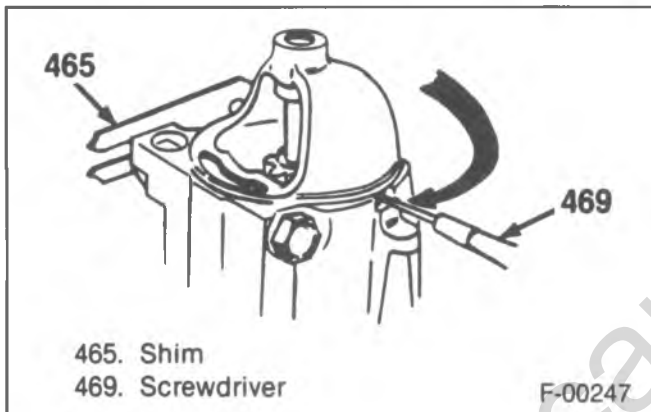

Figure 33—Meshing Starter and Flywheel Teeth
5. Insert a screwdriver in the small hole in the bottom of the starter (shown by the arrow in figure 33) and move the starter pinion and clutch assembly so that